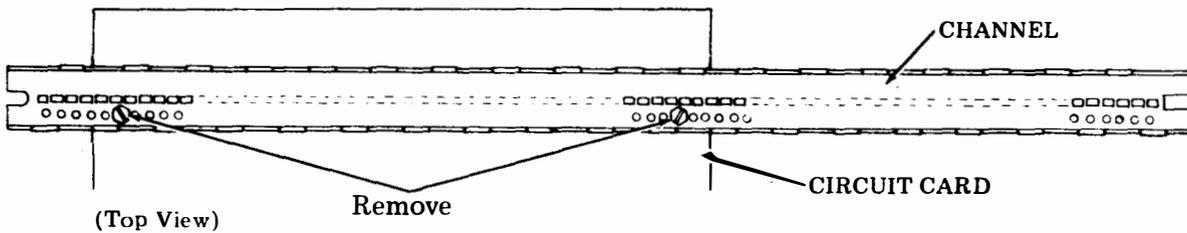

Fig. 32—Channel Removal
- (c) Remove the two screws securing the circuit card to the channel (Fig. 32).